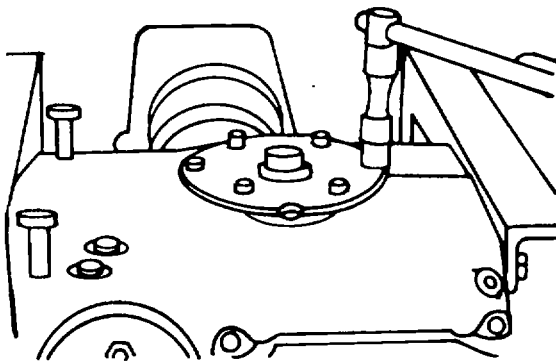

Figure 5-14. Removing the Lower Crankcase Cover
- g. Remove the lower crankcase cover. Disassemble the cap bolts of the middle crankshaft bearing (use socket spanner No. 003-0572, figure 5-14).